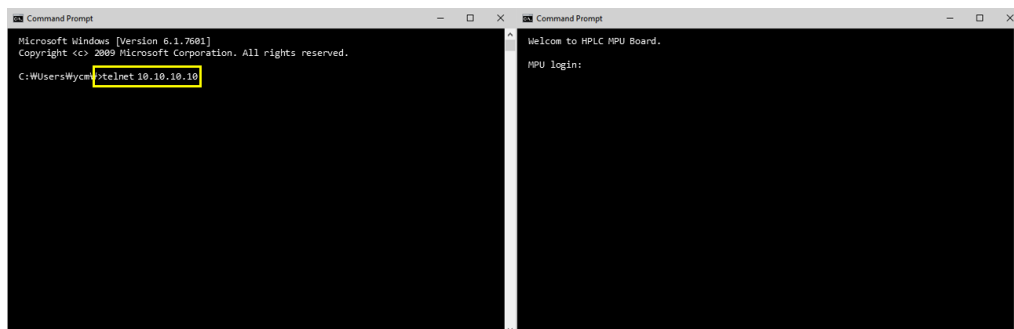

Figure 20. Connect to 'telnet'
8. Enter the 'telnet 10.10.10.10' then press 'Enter' key (see Figure 20).
9. When entered to telnet, the 'Welcom to HPLC MPU Board' message appears as shown in right image of Figure 20.